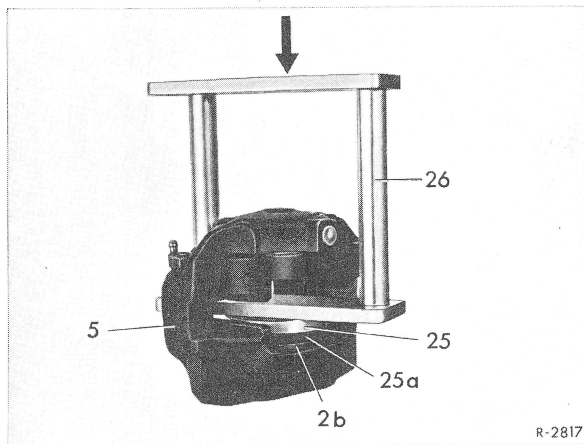

Fig. 16
**13** Place pressure plate (25) on dust cap (2b) and force dust cap on flange of caliper at approx. 300 Nm (30 kpm) pressure using installation tool (26) as well as a hand press (Fig. 16).